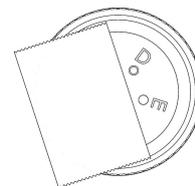

Figure 1
- *If the gas exchange needs to be reduced, individual openings can be sealed with laboratory grade labels or tape (Figure 1).*